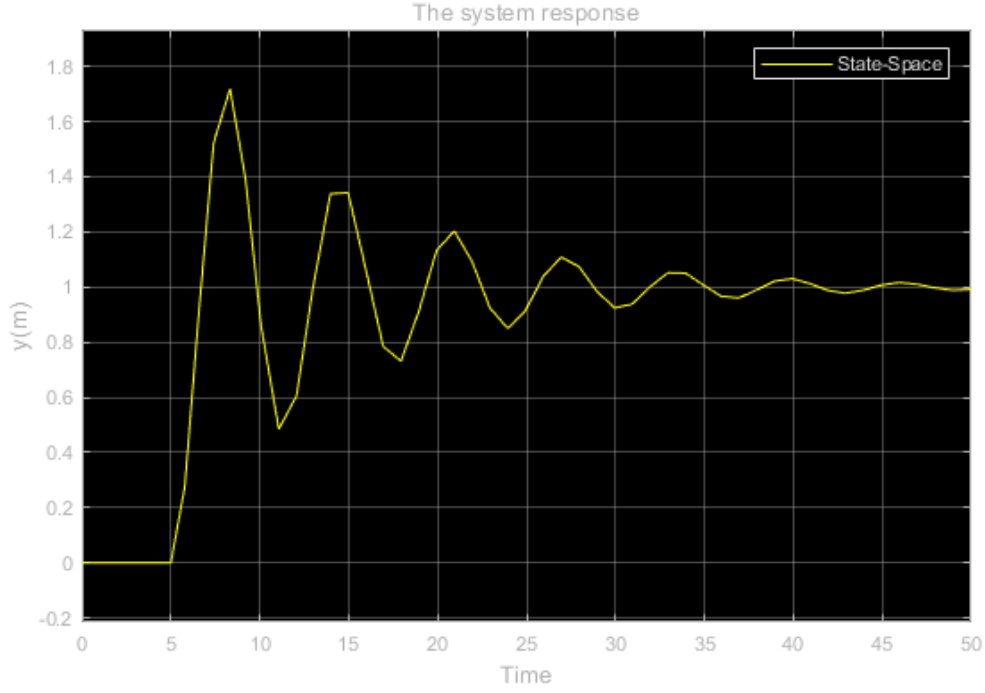
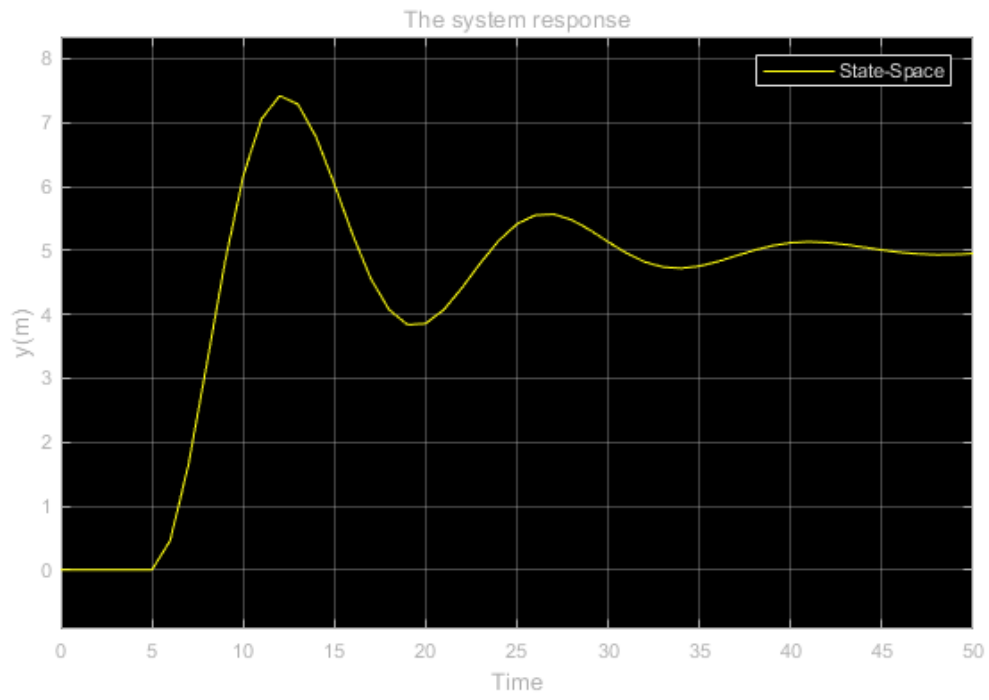
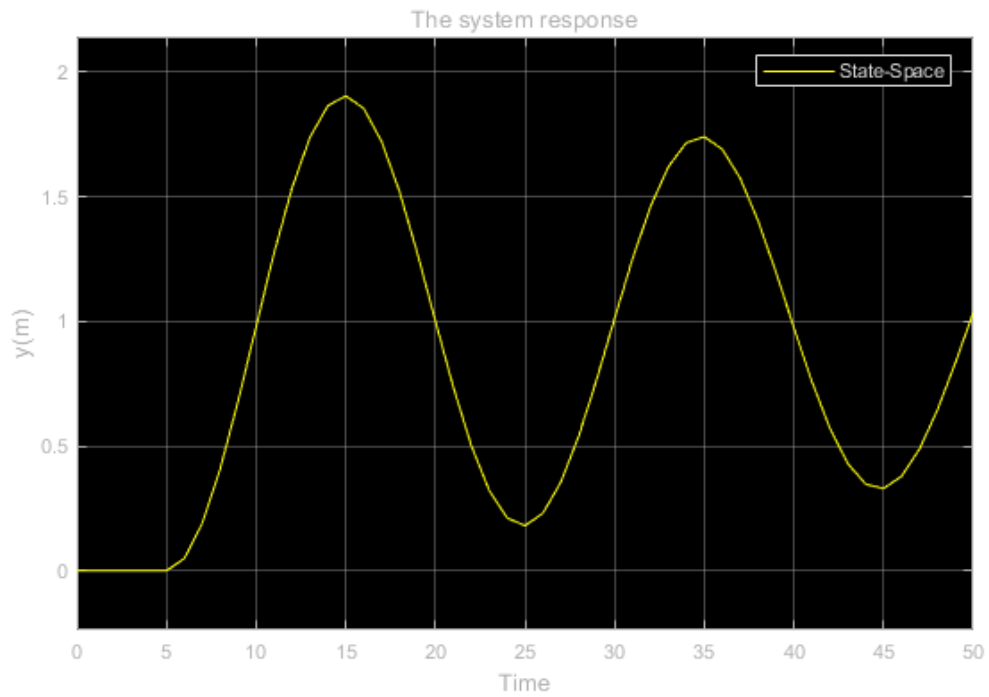
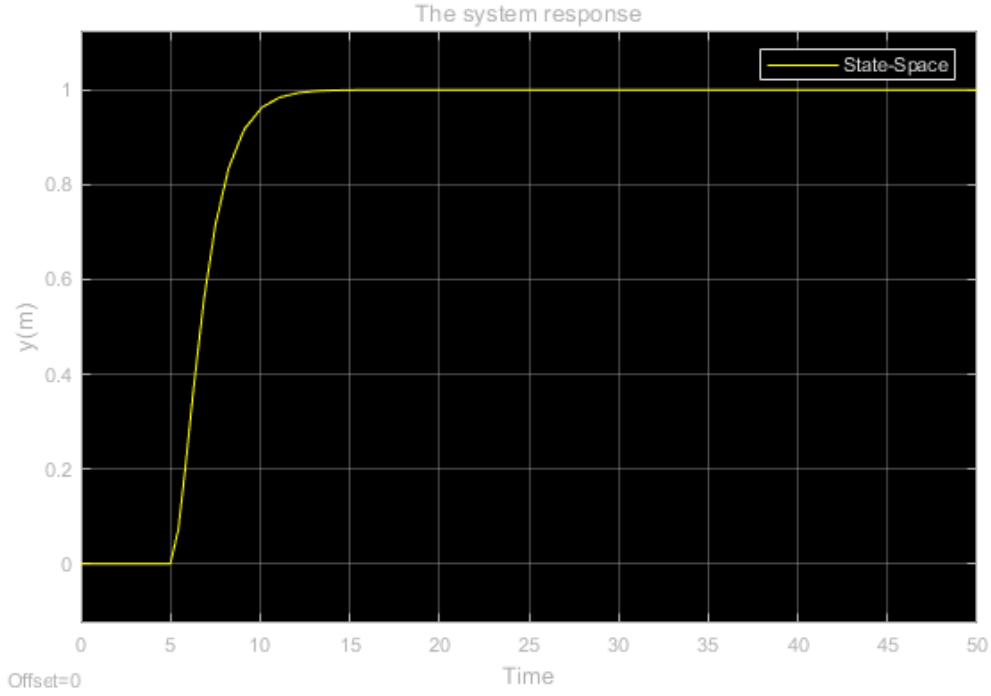

Figure 3: The System Response for MSD as $m = 1\text{kg}$, $b = 0.2\text{Ns/m}$, $k = 1\text{N/m}$
Figure 4: The System Response for MSD as $m = 1\text{kg}$, $b = 0.2\text{Ns/m}$, $k = 0.2\text{N/m}$
Figure 5: The System Response for MSD as $m = 10\text{kg}$, $b = 0.2\text{Ns/m}$, $k = 1\text{N/m}$
Figure 6: The System Response for MSD as $m = 1\text{kg}$, $b = 2\text{Ns/m}$, $k = 1\text{N/m}$
- The spring force is proportional to the displacement of the mass, x with the direction of opposite to the F . Therefore, when the spring constant decreased, the displacement of x is increased. The figures are consistent with these, *Figure 4* has small k value and it reaches far than *Figure 3*.
- It is known that $F_{net} = ma = m\ddot{x}$, then mass and acceleration that is related to position are oppositely proportional, so when mass increased, the output will be decreased. The *Figure 3* and *Figure 5* are expected.
- iii. The viscous damping force is proportional to the velocity of the mass, $v = \dot{x}$ with the direction of opposite to the F . In this case, firstly this opposite direction is not so much because of the velocity is small and after some point this velocity value increases and effect the system with more opposite force. Therefore, *Figure 3* and *Figure 6* are expected.